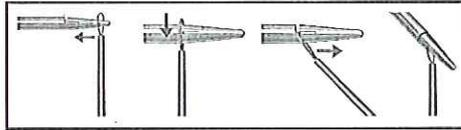

Figure 2: Association Loop Engagement
- Engage one (1) association loop to the distal end of the needle (see Figure 2) protruding through the vagina.